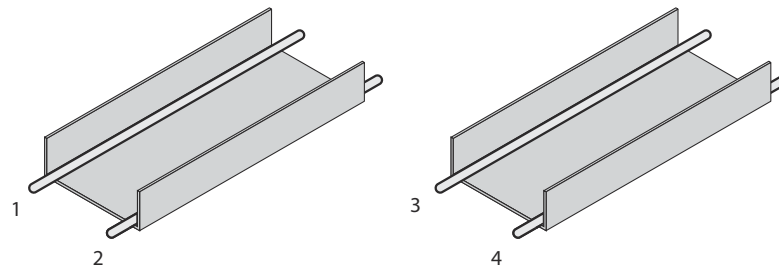
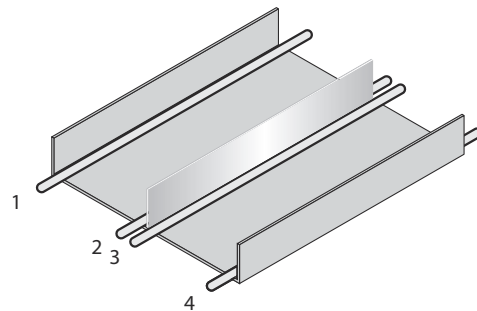

Figure 9: Ideal laying – Place cables in different cable channels
Figure 10: Alternative laying – Separate cables with metallic separators
- Route the cables in groups 1, 2 and 3, 4 in different cable channels or use metallic separators (see figure 9 and see figure 10). This applies particularly if cables of devices with a high level of radiated emission, such as frequency converters, are laid parallel to device cables.